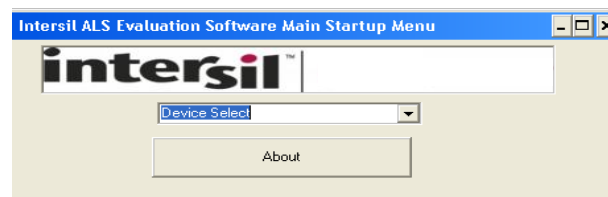

FIGURE 28.
- Once you have double-clicked the program, the window displayed in Figure 28 should open.